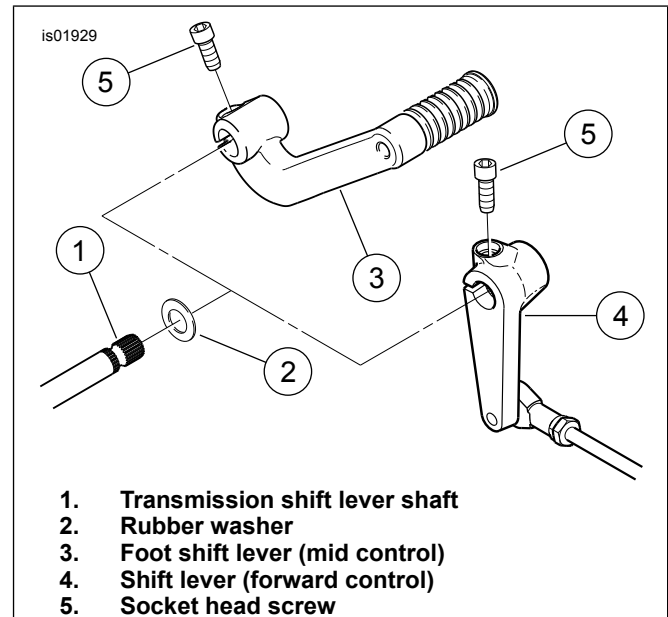

Figure 1. Shift Lever Removal
3. **All models:** See Figure 1. Note the installed orientation of the transmission foot shift lever to aid in re-assembly. Use a 1/4 in. hex key to remove the socket head screw (5) holding the shift lever (3 or 4) to the transmission shift lever shaft (1). Remove the lever and rubber washer (2).
20. See Figure 1. Assemble the rubber washer (2) to the transmission shift lever shaft (1). Orient the shift lever (3 or 4) to the angle noted in Step 3, and install the lever onto the shaft.
21. Using a 1/4 inch hex key, thread the screw (5) into the shift lever. Tighten to 21.7–27.1 N·m (16–20 ft-lbs).